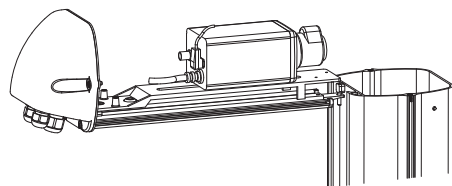

Fig. 02
To open the housing, unscrew the two screws placed on the side in the middle of the rear cover plate (01), take the body out (02), hang it onto the suitable holder (*Fig. 02, page 4*) and leave the internal and external slide in the working position. Before closing the housing take off the protective nylon and put silicagel salts envelope into.